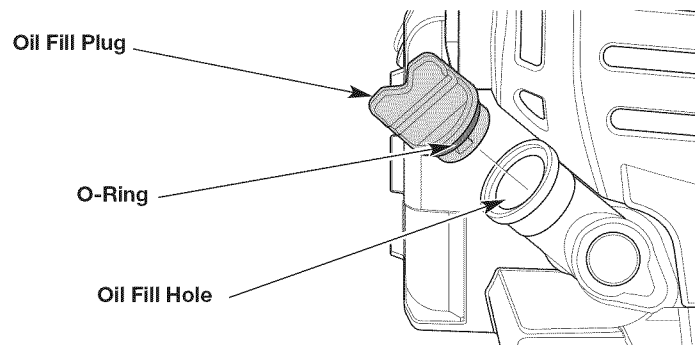

Fig. 7
4. Unscrew the oil fill plug (Fig. 7).
5. Pour the entire bottle into the oil fill hole (Fig. 7). **DO NOT** overfill. Refer to *Checking the Oil Level*.
**NOTE:** Make sure the O-ring is in place on the oil fill plug (Fig. 7).